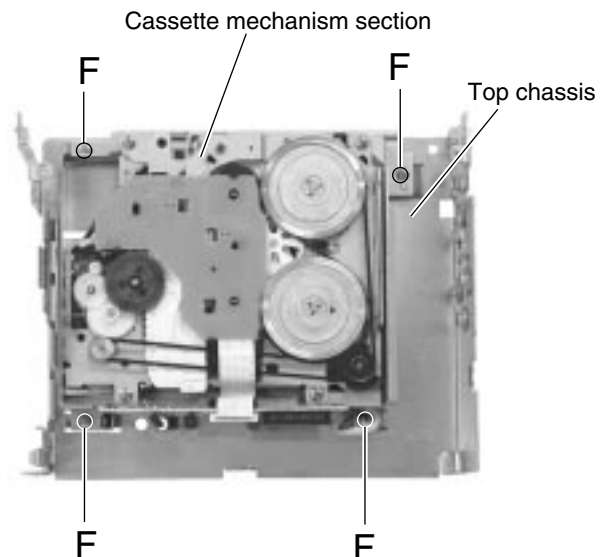

Fig.9
■ Removing the cassette mechanism section (See Fig.9)